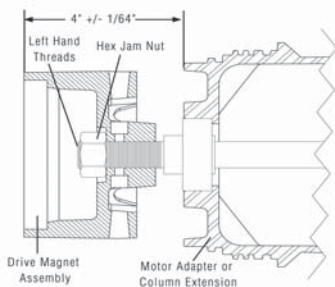

Figure 3
8. Tap down gently with a rubber mallet on the top of the pump shaft to ensure complete coupling engagement. Tighten both bearing set screws onto the pump shaft using a 3/32" Allen wrench. Replace if needed and lubricate the two motor adapter/column extensions o-rings (item 12) with a chemically compatible thread lubricant.
9. For 12" pumps, go to step 10. For 18" or longer pumps, slide the lock ring (item 11) past the corresponding flats toward the motor. Make sure to place the smaller inside diameter side of the lock ring toward the motor. Use a chemically compatible thread lubricant to lubricate the external plastic threads on the motor adapter (item 9) and the internal plastic threads on the column extension (item 30). Gently slide the column extension with bearing onto the pump shaft. Install if needed and lubricate the two column extension o-rings (item 12). Repeat step 9 for each column extension to be installed.
10. Thread the left hand threaded drive magnet assembly (item 14) onto the pump shaft until it is 4" +/- 1/64" as measured from the top of the drive magnet assembly as shown in Figure 3. **A 9/16" wrench can be used on the milled flats below the threads to hold the pump shaft during this step.** Apply a small amount of Loctite Thread Locker 262 to the left-hand threaded 5/8-18 hex jam nut (item 15) and thread onto the pump shaft. Tighten to 50 ft. lbs. Recheck the drive setting dimension after the nut is tightened.